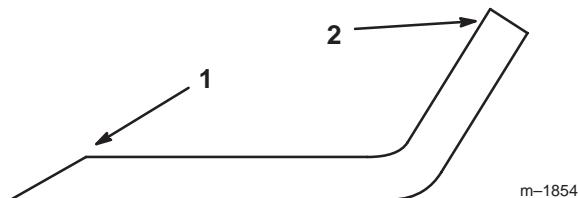
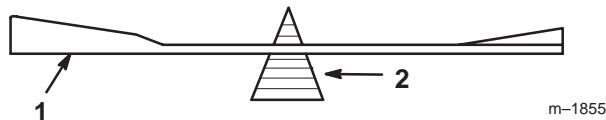

Figure 30
Figure 31
1. Use a file to sharpen the cutting edge at both ends of the blade (Fig. 30). Maintain the original angle. The blade retains its balance if the same amount of material is removed from both cutting edges.
2. Check the balance of the blade by putting it on a blade balancer (Fig. 31). If the blade stays in a horizontal position, the blade is balanced and can be used. If the blade is not balanced, file some metal off the end of the sail area only (Fig. 30). Repeat this procedure until the blade is balanced.